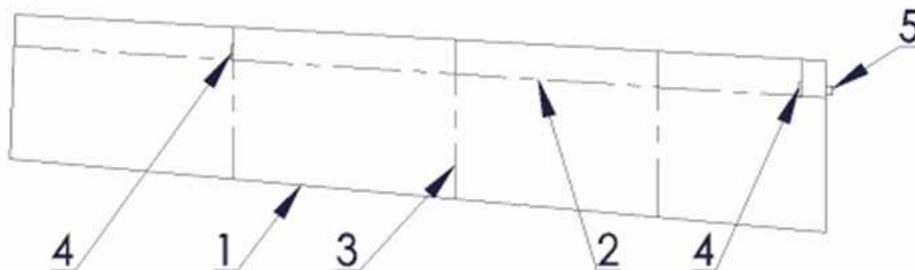

Fig. 4-2
Flaps (Fig. 4-2) are of all-metal structure consisting of the skin (1) aluminum sheet metal, spar (2) and ribs (3) which are connected by means of riveting. Flaps are suspended on the rear spar by means of three hinges (4). There is a control plate (5) on flap root rib where is the flap control pin connected.